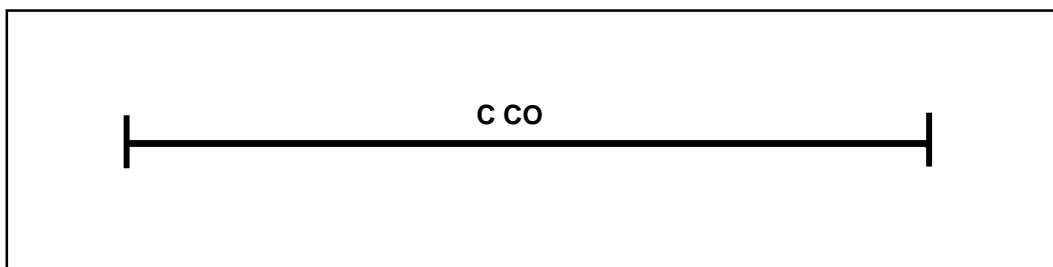

Figure 2-7. Final protective fires symbol.
e. The **final protective fire** (Figure 2-7) is an immediately available prearranged barrier of fire designed to impede enemy movement across defensive lines or areas. It is integrated with the maneuver commander's defensive plans. The shape and pattern of FPF may be varied to suit the tactical situation. The maneuver commander is responsible for the precise location of FPF. The FIST chief is responsible for reporting the desired location of the FPF to the supporting FDC. Authority to call for the FPF is vested in the maneuver commander (normally, the company commander or platoon leader) in whose area the FPF is located. The FPF is represented on a map or firing chart by a linear plot. The length of the plot depends on the type of unit assigned to fire the FPF. The designation of the unit that will fire the FPF is placed above the plot representing the FPF.